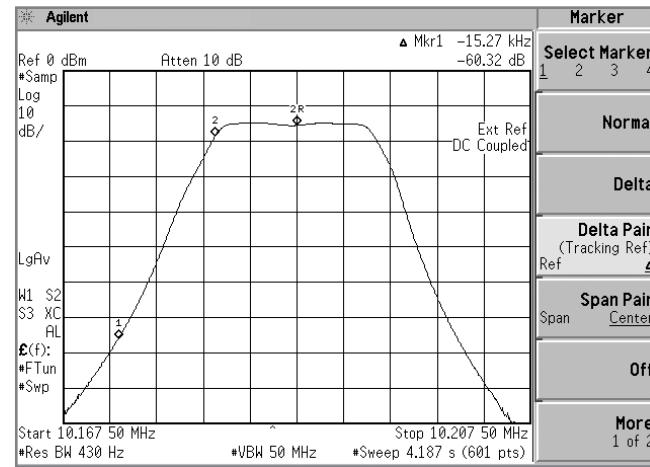

Figure 4. Calculating the filter’s shape factor
2. Selectivity or shape factor (-3 dB vs. -60 dB)	[Measure] {Meas Off}, [Marker], {Normal}, {Delta Pair}, toggle to underline “Ref”, turn the knob to move the Marker 1R to 3 dB below Marker 1 and get the frequency offset reading A (for example: 7 kHz); then {Delta Pair}, toggle to underline “ Δ ”, turn the knob to move Marker 1 to 57 dB below Marker 1R and get the frequency offset reading B (for example: 8.3 kHz). Now, the shape factor of this filter can be calculated as $(a+b)/b$ (for example: $(7+8)/7$, or 2.1:1). See Figure 4.